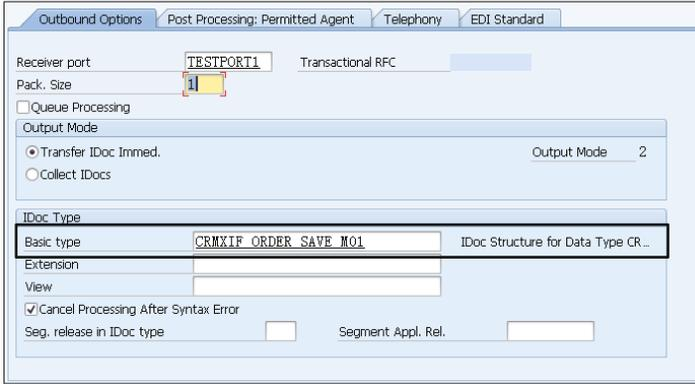

Figure 3.40 Outbound Details
- Assign the IDoc type CRMXIF_ORDER_SAVE_M01 to the message type CRMXIF_ORDER_SAVE_M. The OUTPUT MODE is transferred immediately to the IDoc (see Figure 3.40).